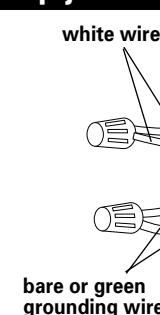

Figure 4
11. Connect the bare and white wires to the bare or green grounding wire in junction box. **Do not connect bare (white) wire to neutral junction box wire.** See Figure 4.